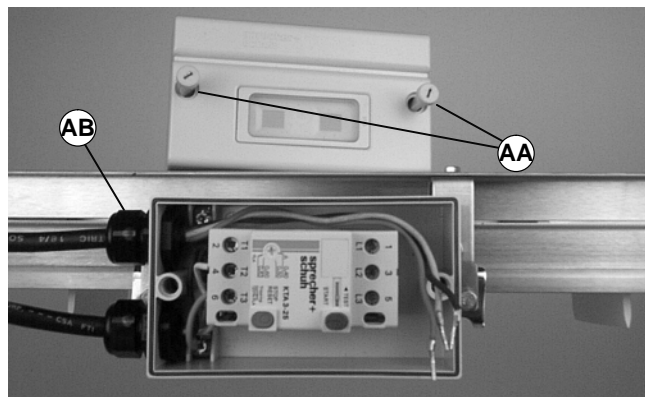

Figure 11
1. Loosen cover screws (AA of Figure 11). Remove cover.
5. Replace starter cover and tighten screws (AA of Figure 11).